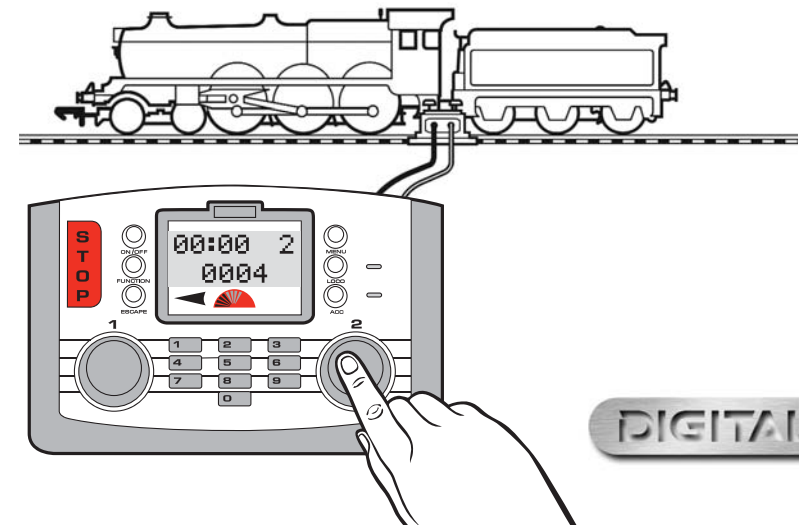

Fig 1
4. Press and release **Control 2**. Screen shows "**00:00 2 0004**". Rotate **Control 2** and the locomotive will move off. If you wish the loco to move in the opposite direction press **Control 2**. The screen will show that the direction arrow will have changed. See Fig 1.